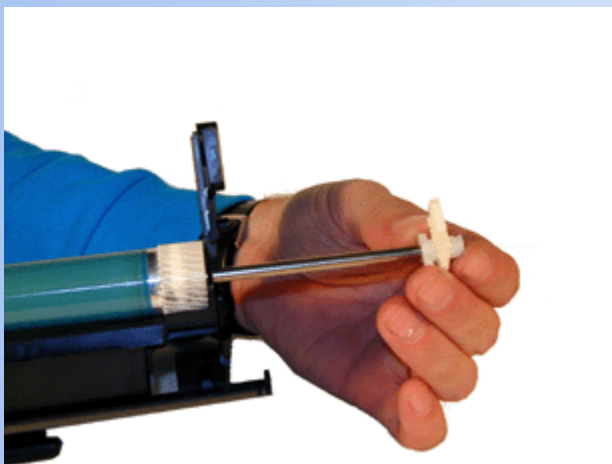

FIGURE 3
3. Pull the white drum axle pin out. A full length axle should come out with it. If not, remove the axle also. See Figure 3